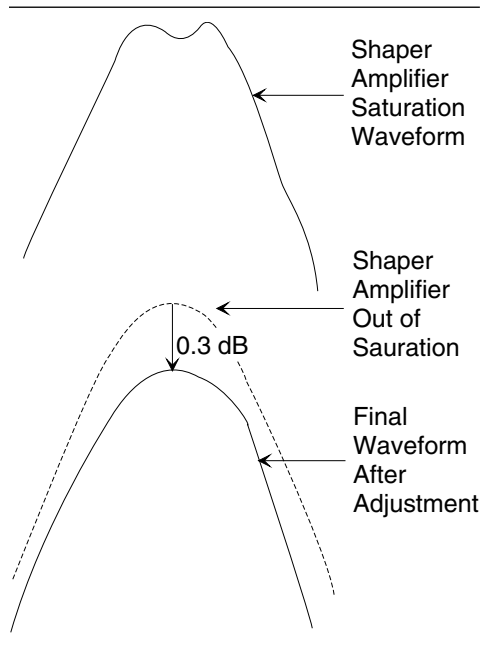

Figure 4-4. Limiter DAC Adjustment Waveforms
- c. Observe the displayed waveform to determine whether the Shaper Amplifier is being driven to saturation. This is indicated by a dip in the top of the triangle waveform (Figure 4-4).